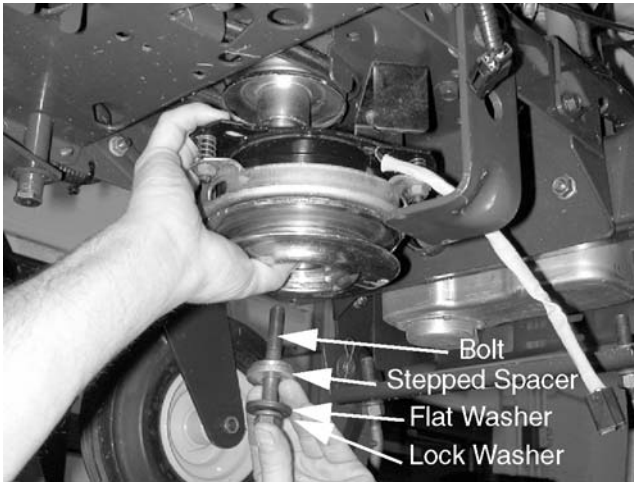

Figure 11-14
7. Remove the bolt, lock washer, flat washer, and stepped spacer with your other hand. Note the position of the hardware. See Figure 11-14.